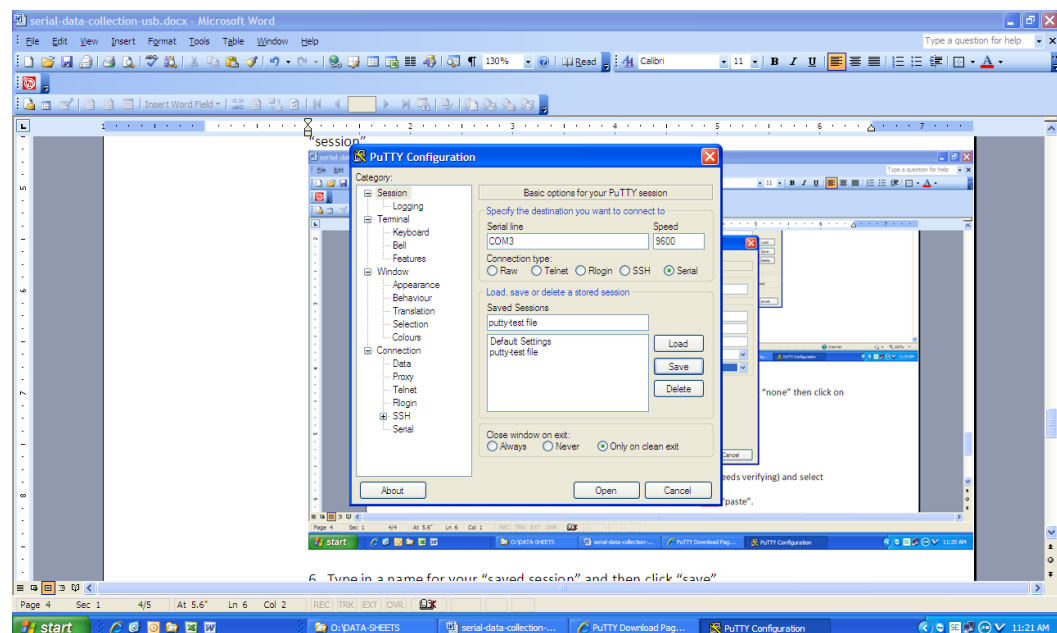

Figure 8
6. Type in a name for your “saved session” and then click “save”. In this example the saved name is putty-test file. (Figure 8.)